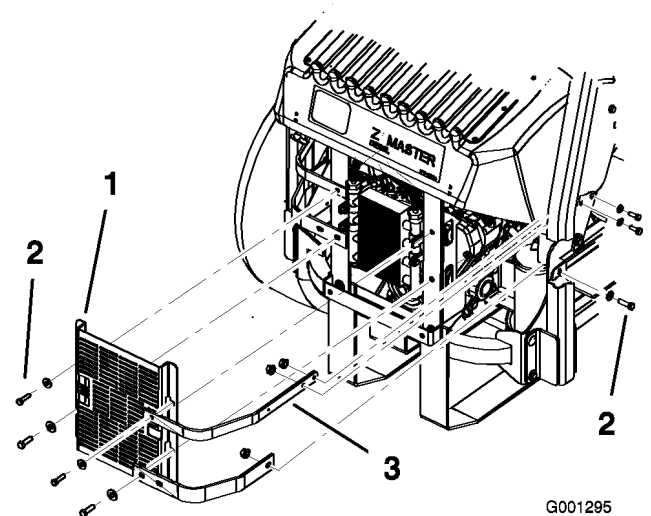

Figure 61
3. Remove the 4 bolts holding the oil cooler shield to the rear frame (Figure 61).
4. Remove the 3 bolts holding the engine straps to the side of the machine (Figure 61).
12. Install the oil cooler shield and engine straps to the rear frame with the 4 bolts previously removed (Figure 61).
13. Install the engine straps to the side of the machine (Figure 61).